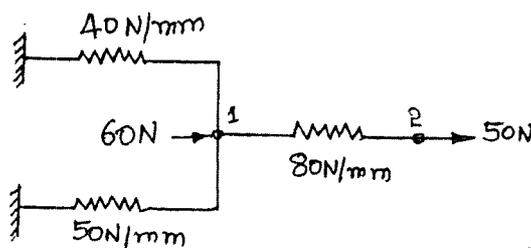

Fig.Q1(c)
c. Using minimum potential energy determine the nodal displacement of a spring system shown in Fig. Q1(c). (08 Marks)